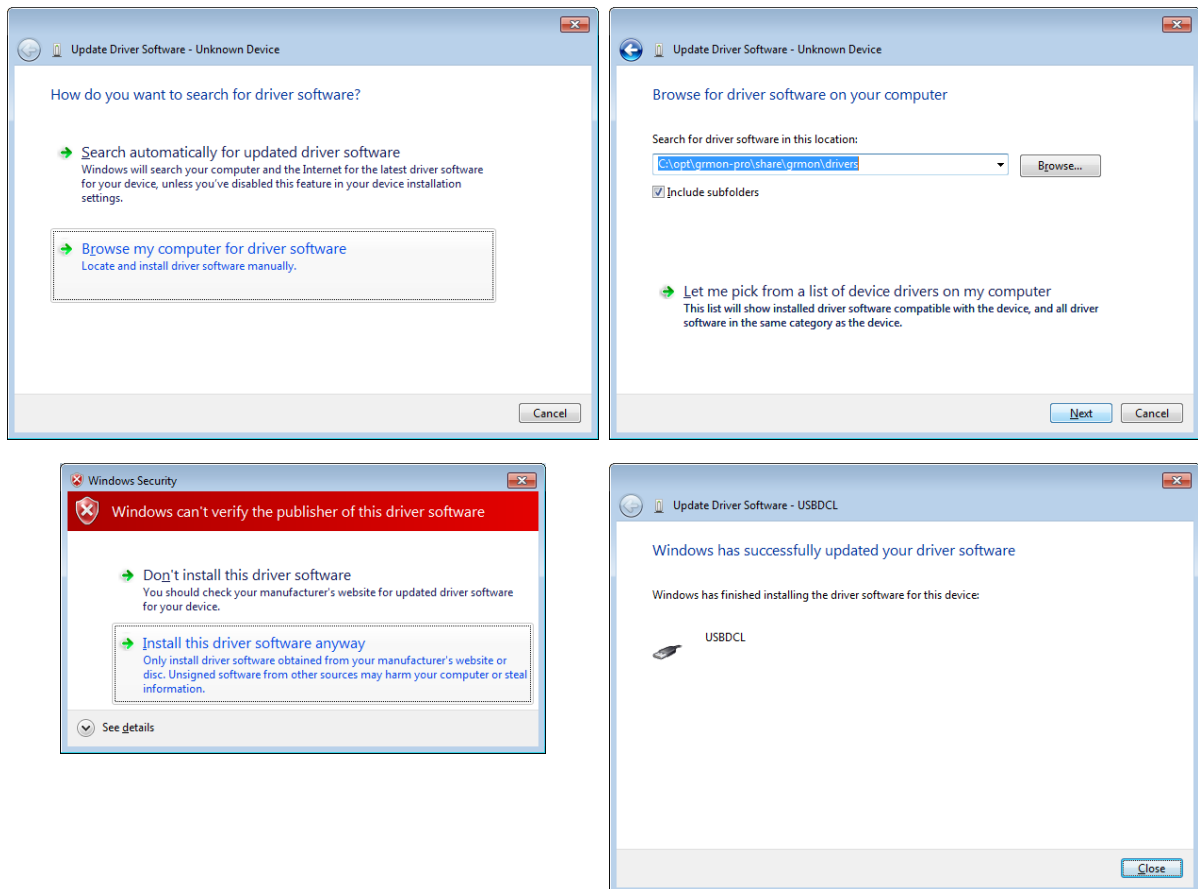

Figure 4.5.
3. In the dialog that open, the first image in Figure 4.5, choose **'Browse my computer for driver software'**.
5. A warning dialog might pop-up, like the third image in Figure 4.5. Press **'Install this driver software anyway'** if it shows up.